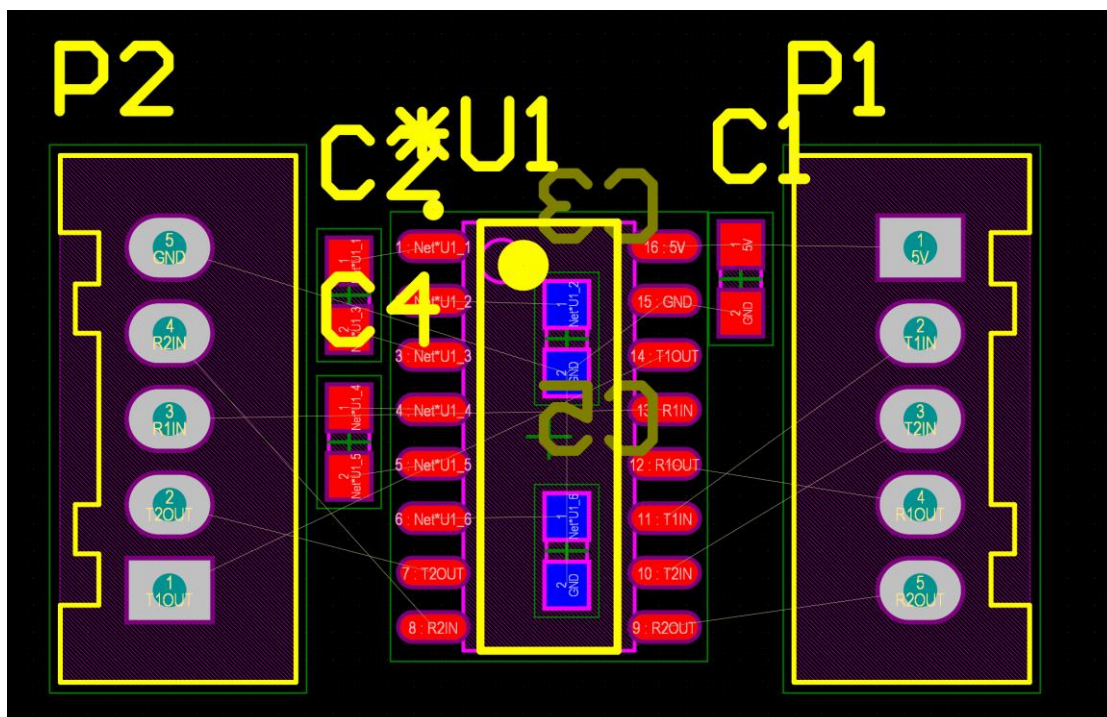

Figure 10: Full Component Layout of PCB
17. Your PCB should now look similar to Figure 10.